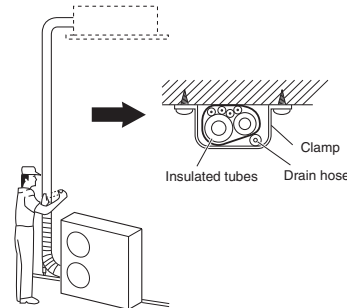

Fig. 5-8
- Clamp the tubing bundle to the wall, using 1 clamp approx. each meter. (Fig. 5-8)